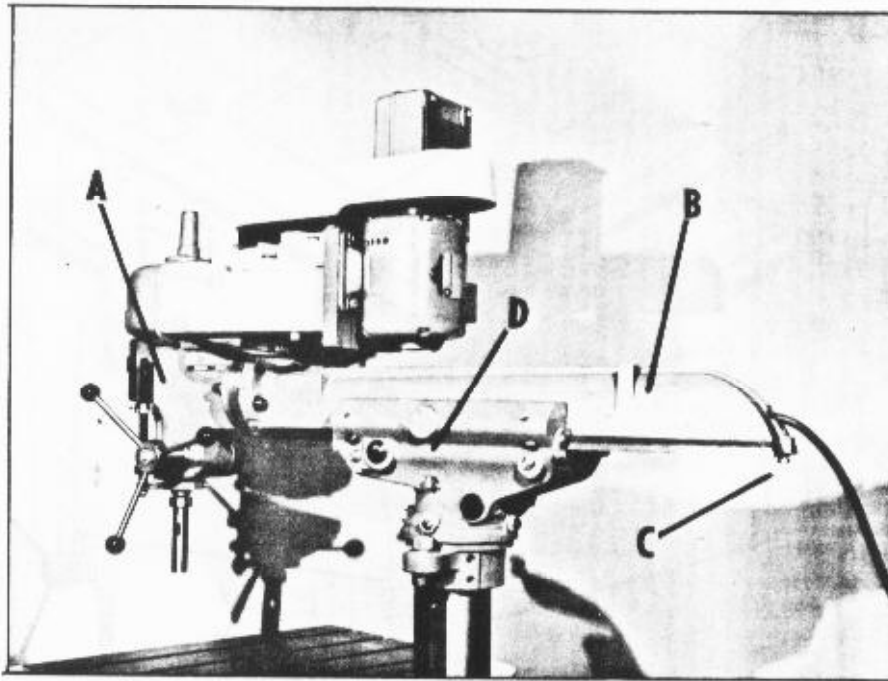

Fig. 2
The ram (B) and drill press head (A) Fig. 2, are shipped assembled and is positioned on the table for ease in handling. To assemble the ram to the cradle, proceed as follows:
1. Remove the stop screw and nut (C) Fig. 2.
2. The drill head (A) and ram assembly (B) should be slid into position in the cradle (D), as shown in Fig. 2. **IMPORTANT:** One end of the cradle (D) is indicated as the front end and the drill head (A) must be at this end. Also care should be taken to prevent jarring the ball bearings in the cradle when sliding the ram into position.
3. Guide the ram (B) carefully in the cradle (D) making sure that it is properly seated and that it slides freely.
4. After assembling, replace the stop screw and nut (C) Fig. 2.